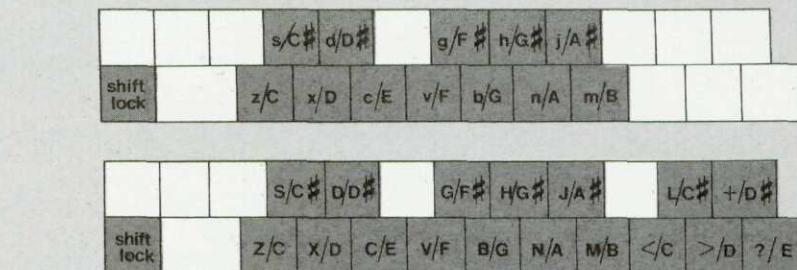

Figure 2. Diagram of keys used in organ program. Switching between octaves is done using Shift lock.
**T**he program generates my fairground organ over a good two octaves range, changeable from lower to upper octaves via the shift lock key. Because of the adjustment to repeat rates they are reset on ERROR or on ESCAPE. Look at figure 2. This gives the layout of the keys used for each octave so that 'z/C' means lower case z plays a C in the lower octave, while '?/E' means ? plays an E in the upper octaves with shift key down.
Figure 2 will therefore let you convert music from a tune book to the keys of your BBC micro. By way of starting off a BBC tunebook, I offer figure 3 as tune no 1. Make sure the shift lock LED is lit, then play the notes shown - you should pick up the rhythm quickly as the tune seems to be fairly well known.